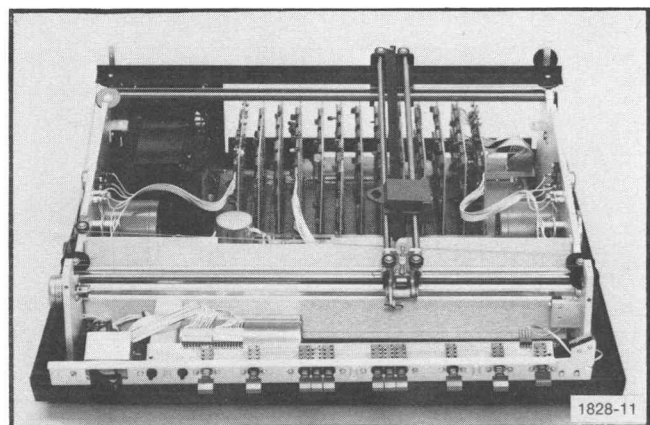

Fig. 3-11. Plotter setup for cable stringing.
1. The platen and plotter case should first be removed, then the panel switch bar should be disconnected to obtain access to the axis drive cables. See Fig. 3-11. Refer to the procedure for removal of platen and plotter case previously mentioned in this section. To remove the panel switch bar, remove two screws—one from each end of the assembly. The panel switch assembly can then be folded down and out of the way. Do not remove the thin metal strip attached to the two rear pulleys.